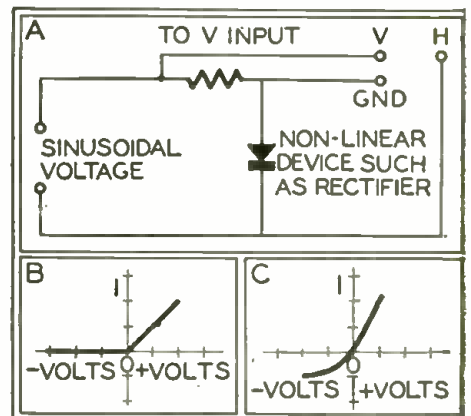

Fig. 8, A—Set-up for producing voltage and current curves. B and C—Curves so produced.
9. Voltage vs. Current Curves: A characteristic curve of current plotted against voltage may be obtained by using the circuit shown in Fig. 8-a, where the impressed voltage of the circuit is applied to the horizontal input and the current in the circuit (as a function of the voltage drop across the series resistor), is applied to the vertical input. For the curve of a resistor, the straight line produced would give the same zero degree phase angle picture as obtained in Step 8 (b). This method may also be used for copper-oxide rectifiers, and for diode and triode tubes. Sample results for the diode are shown in Fig. 8-b, giving a curve with voltage ( $E_p$ ) shown on the X-axis, and current ( $I_p$ ) shown on the Y-axis. Fig. 8-c gives the curve for a copper-oxide rectifier. Curves for triodes and other type tubes may also be obtained in this manner.